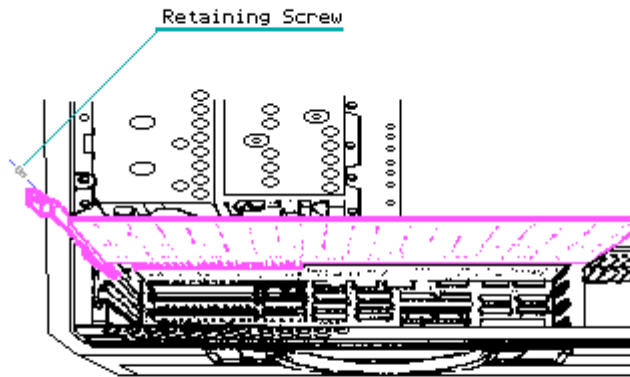

Figure 7.9-8. Removing an Expansion Board
4. Gently pull the particular expansion board up and out of its socket on the system board. Remove the board from the computer. (Figure 7.9-8).